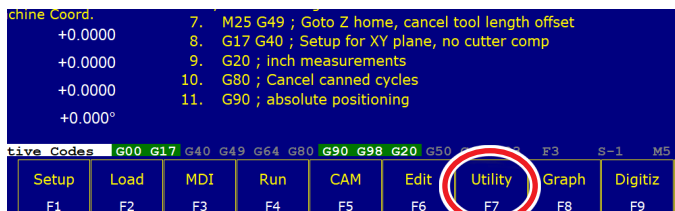

FIGURE 10
A. Click on Utility F7 (see Figure 10).